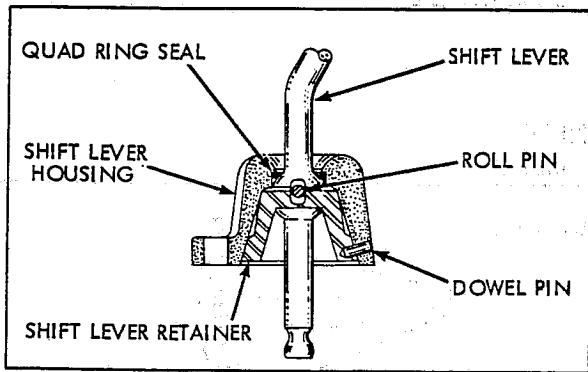

Figure 10-2 Dowel Pin Type Shift Lever
- (b) **Dowel Pin Type.** Locate the dowel pin holding the retainer in the housing from the outside (Fig. 10-2). Place a 1/4" flat face punch on the gasket surface directly over the dowel pin. Strike the punch sharply but lightly with a hammer to dislodge the retainer from the shift lever housing. Always use a new dowel pin for reassembly.
- (c) Remove the shift lever from the shift lever housing. Examine the roll pin in the ball of the shift lever, (Fig. 10-2) if bent or worn, replace. When inserting a new roll pin in the ball, position so that equal lengths protrude from both sides of the ball.